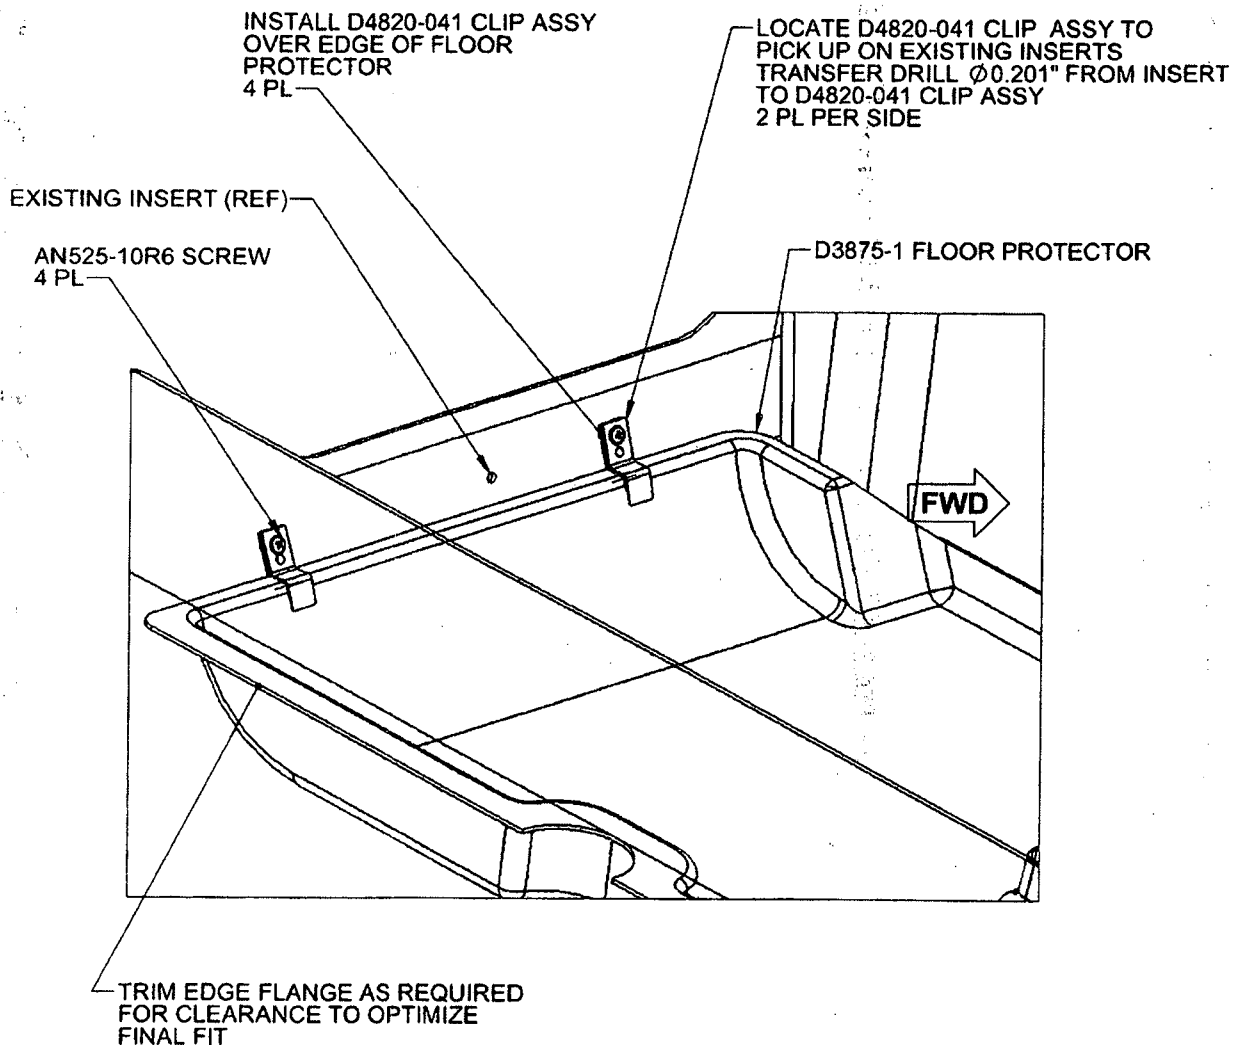

FIGURE 1: FLOOR PROTECTOR INSTALLATION
2.0 INSTALLATION (refer to Figure 1)